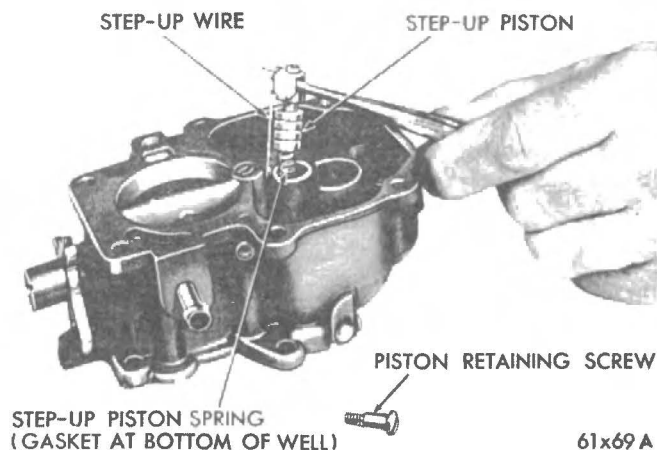

Fig. 4 - Removing or Installing Step-up Piston.
(11) Remove the step-up piston retaining screw, and slide step-up piston and rod out of well, as shown in (Fig. 4). Now lift out the step up piston ring. Remove the step-up piston gasket from the bottom of the well.
and rod. (Refer to Fig. 4). Install retaining screw and tighten securely. Carefully guide the step-up rod into the main metering jet. Be sure the step-up piston slides freely in its cylinder. A step-up piston stuck in the UP position will cause a rich mixture at part throttle, whereas a piston stuck in the DOWN position will cause a lean mixture at wide open throttle and poor acceleration.